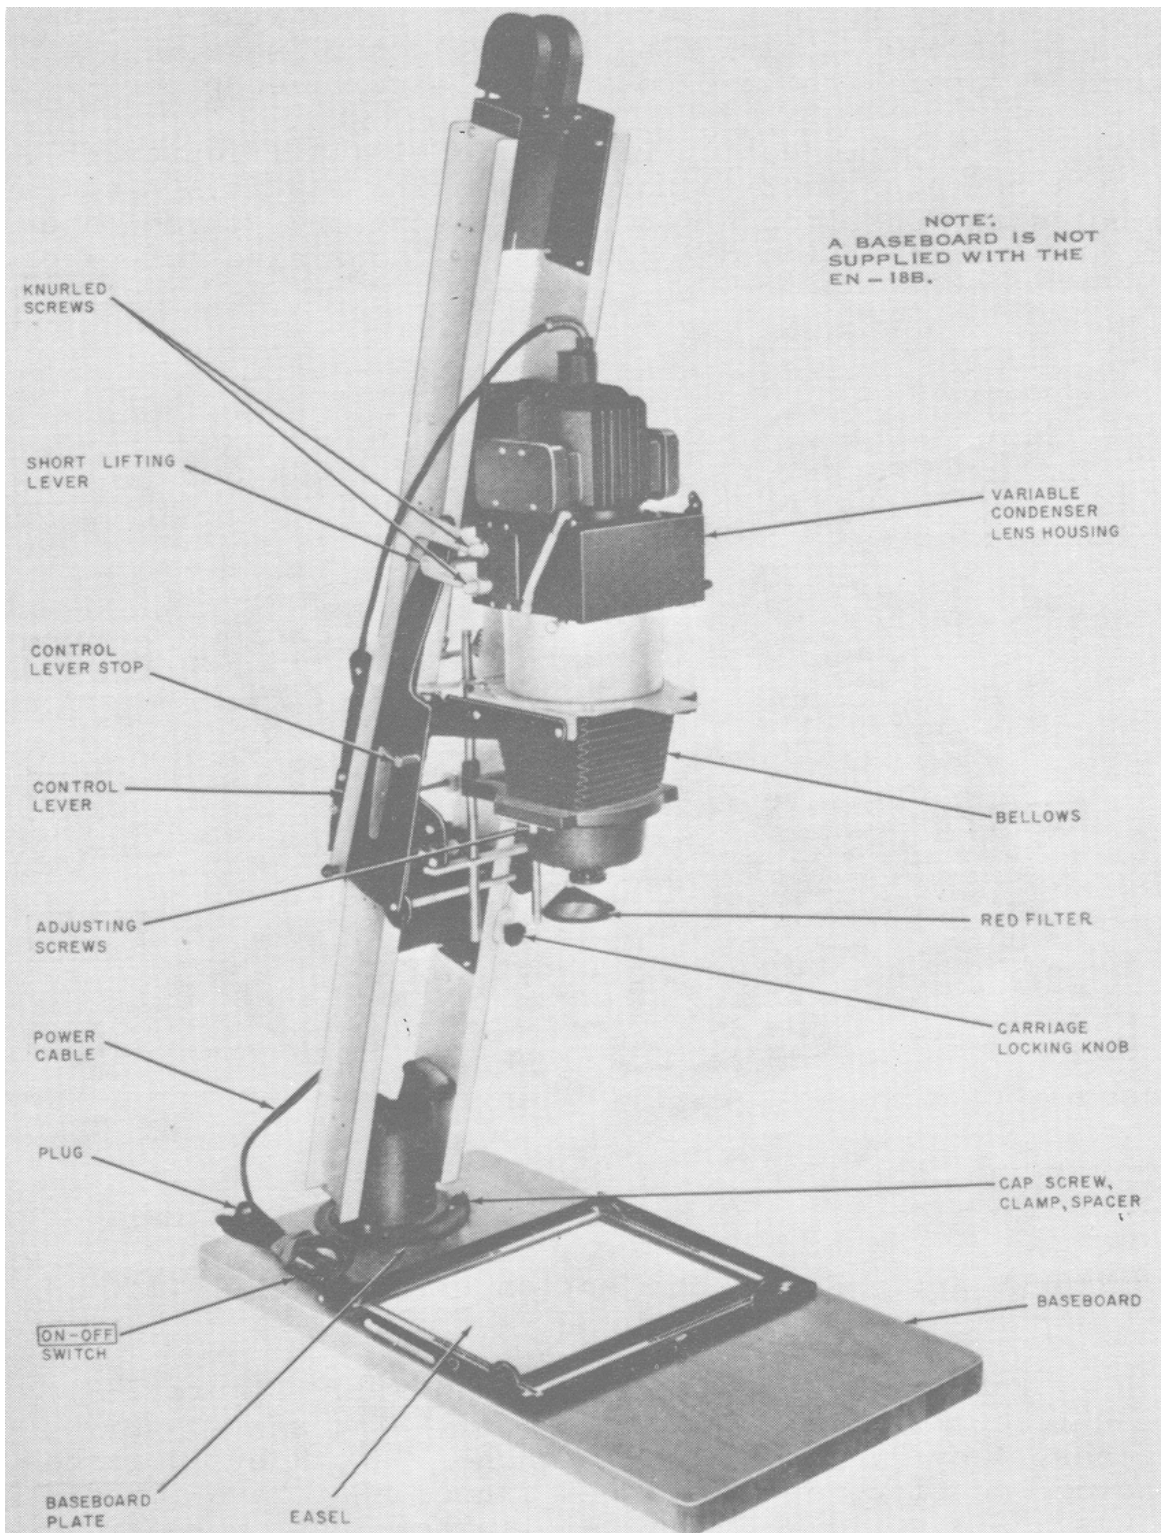

FIGURE 2-7. Printer, left-side view.
e. Baseboard assembly, EN-91A (figure 2-7). The baseboard assembly consists of a wooden baseboard and a steel baseboard plate that forms the mounting support for the girder assembly. Three rotary clamping pads secure the girder assembly to the baseboard.
f. Red filter (figure 2-7). The red filter is provided for visually positioning the projected image on the sensitized paper without exposing the sensitized paper.